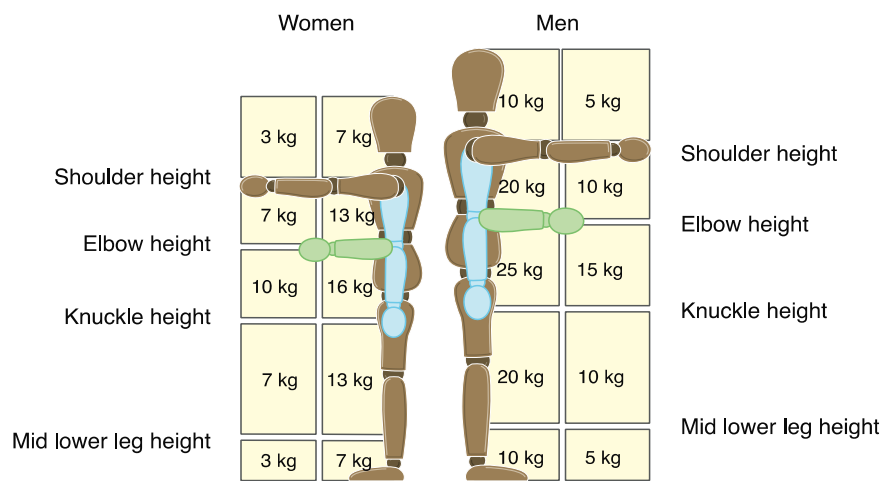

Figure 1: Average Lifting Capabilities of an 'Average' Healthy Individual.
a.	Holding the load away from the body / trunk? (see Fig1, Guidance Notes below)
a.	Heavy? (see Fig1, Guidance Notes below)
a.	Require unusual capability e.g. strength / height? (see Fig1, Guidance Notes below)
The activities listed on the risk assessment form could cause accidents and/or increase the stress on the handlers back and/or shoulders which could result in an immediate acute injury, a long term chronic injury or fatigue, which could then also cause accidents as well as injury. Therefore wherever possible foreseeable 'significant' risks from these activities should be eliminated or minimised by the selection of appropriate remedial actions. In combination with the risk assessment and Fig. 1 above, the notes below will help to identify the remedial actions that may need to be taken.